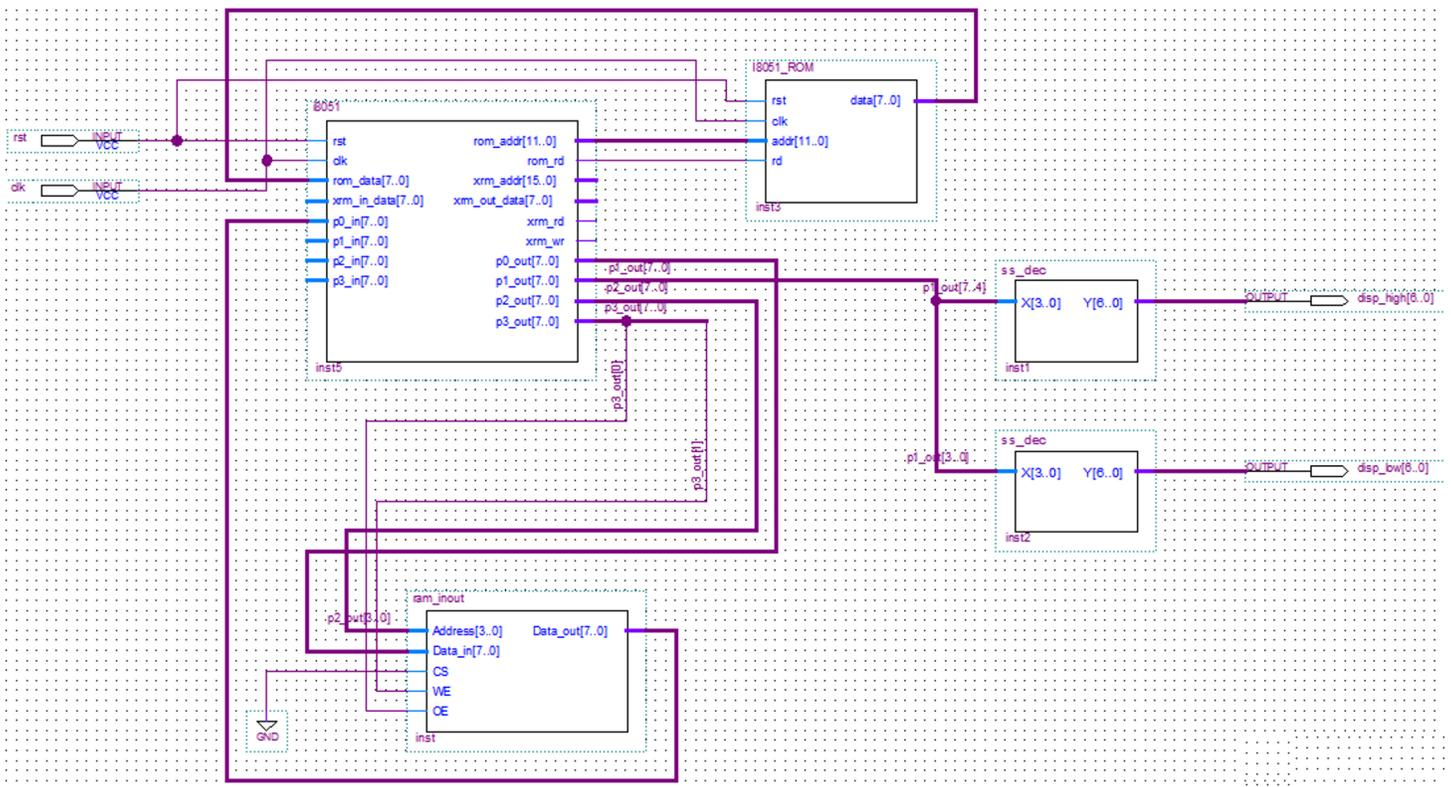

FIG. 3: Top level schematic design with RAM
3. Once you have all the files in place and imported, proceed to make a top-level block diagram schematic that looks like Figure 3.